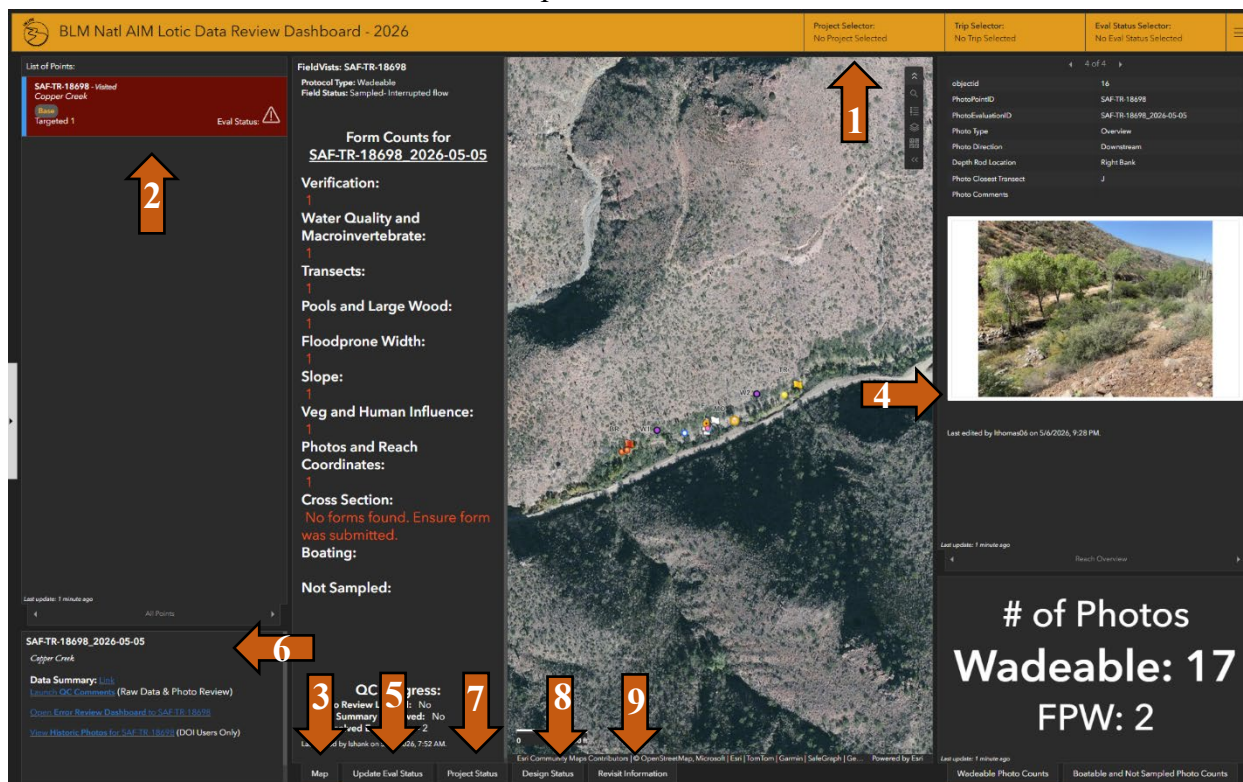

Figure 2. Screenshot of Data Review Dashboard.
Prior to reviewing data from the data collector’s first trip, watch the QC webinar which covers detailed instructions on how to use the Data Review Dashboard. Only general instructions are provided below. The data review dashboard has the following key components (Figure 2):
Open the Data Review Dashboard from the BLM Natl Lotic AIM AGOL group page. Select the desired project and trip from the top orange bar (Figure 2, Label #1). This will filter the points displayed on the main map in the “Map” tab (Figure 2, Label #3). Select either a PointID or an EvaluationID using the left panel (Figure 2, Label #2). If a reach was visited more than once, use the Sampled or Not Sampled Field Visits tabs to select an individual visit. Then complete the following steps and repeat this process for each point on the trip:
- A. In the tab labeled “Map” (Figure 2, Label #3), locate the panel to the left of the map. Review the form count information and any warning messages. Ensure that all forms have been submitted and that any merged forms are properly documented using the QC Comments form (Figure 2, Label #6) before proceeding with Data Review.
- B. Using the map in the tab labeled “Map” (Figure 2, Label #3), compare the design coordinates (green symbol from the Points layer) with the sampled coordinates (blue symbol from the Field Visits layer). Ensure data collectors visited the correct location and did not incorrectly move the point coordinates in the field. If you have concerns, review the ‘PointMoved’ text in the data summary PDF (Figure 2, Label #6) which indicates if data collectors noted that the point was moved in the field. See section 3.2.2 in TR 1735-2 for guidance on moving the point coordinates.
- C. Review bottom (BR) and top (TR) of reach coordinates (Figure 2, Label #3). Ensure they fall on the stream and are approximately equally spaced from the F transect. If not, check the ‘Field Eval Status’ or other fields in the data summary to see if the point may have been partially sampled. If the reach is a revisit, the previously sampled top, bottom and F transect coordinates will be displayed on the map as yellow, red and white dots. If top, bottom or F transect coordinates appear incorrect properly document the issue using the QC Comments form (Figure 2, Label #6) before proceeding with Data Review.
- D. Page through the photos and photo comments (Figure 2, Label #4) to get a feel for the site. There should be photos for all visits to a reach even if it wasn't sampled. If the reach was sampled, ensure that critical concept, flood-prone width, and bank cover and stability photos were taken and that unannotated copies were uploaded as well.
- E. If the reach was not sampled, use the photos and photo comments from the Not Sampled tab to determine if the 'Reason Not Sampled' is correct and update the 'Eval Status' and 'Reason Not Sampled' in the Points layer. Click the Field Visit point on the Webmap panel (Figure 2, Label #5) to see the "Not Sampled Comments".
- a. With a PointID selected and highlighted blue on the left side of your screen (Figure 2, Label #2), in the center of the map, locate the tabs that say "Update Eval Status" (Figure 2, Label #5).
- II. Using the link in the lower-center-left box of the dashboard (Figure 2, Label #6), open the QC Comments form to “Log a Photo Review” and record the extent to which you agreed with the data collector’s placement of these features. Use the photo comments field to note anything that you want to discuss with the data collectors regarding their critical concepts. You must do this even if you agreed with all placements. This will let everyone know that the photos and the initial data has been reviewed. Points that have had photos reviewed are symbolized on the main map with a yellow ring around them.
If the reach was sampled, open the data summary PDF using the link at the bottom-center-left of the page (Figure 2, Label #6). Review the data along with photos paying special attention to the gray, gold, and blue highlighted boxes on the data summary (Figure 3). Data not highlighted in gray, gold, or blue is not a priority but is provided to assist with discussions with data collectors.
Any issues found during this process should be recorded using the “Log an Issue” option in the QC Comments form. This form can be launched from either the dashboard (Figure 2, Label #6) or from the upper right corner green box of every data summary PDF. If something looks unusual, it is best to document it and then have the data collectors respond to the issue. Some things may look like issues but could very well be acceptable and explainable. We especially want these sorts of things recorded as these can be extremely helpful when reviewing data and indicators in future years.